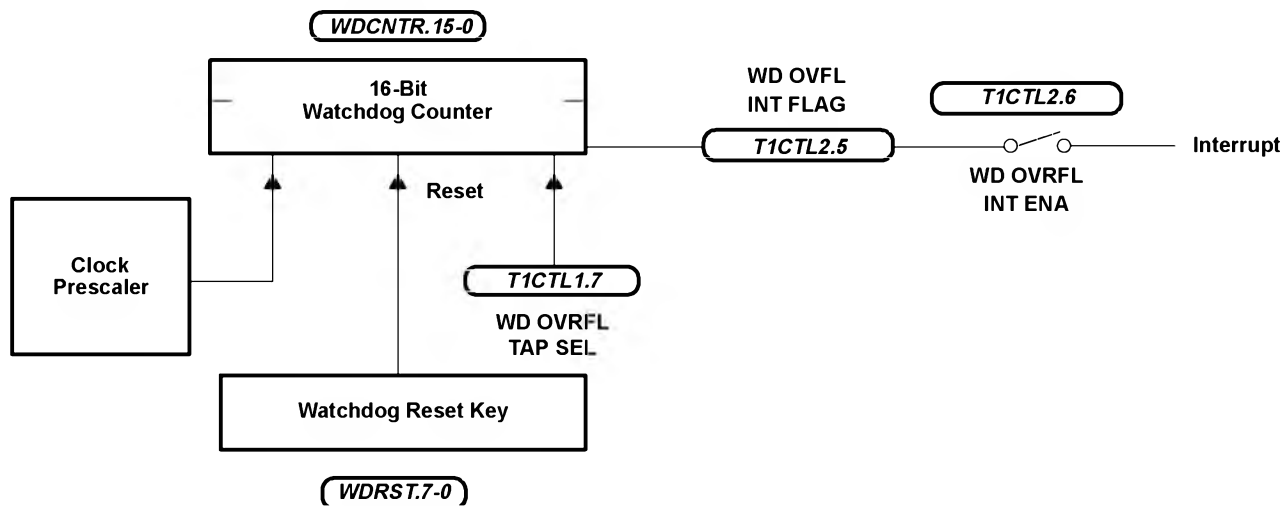

Figure 11. Simple Counter
- Simple counter configuration (see Figure 11) for mask-ROM devices only